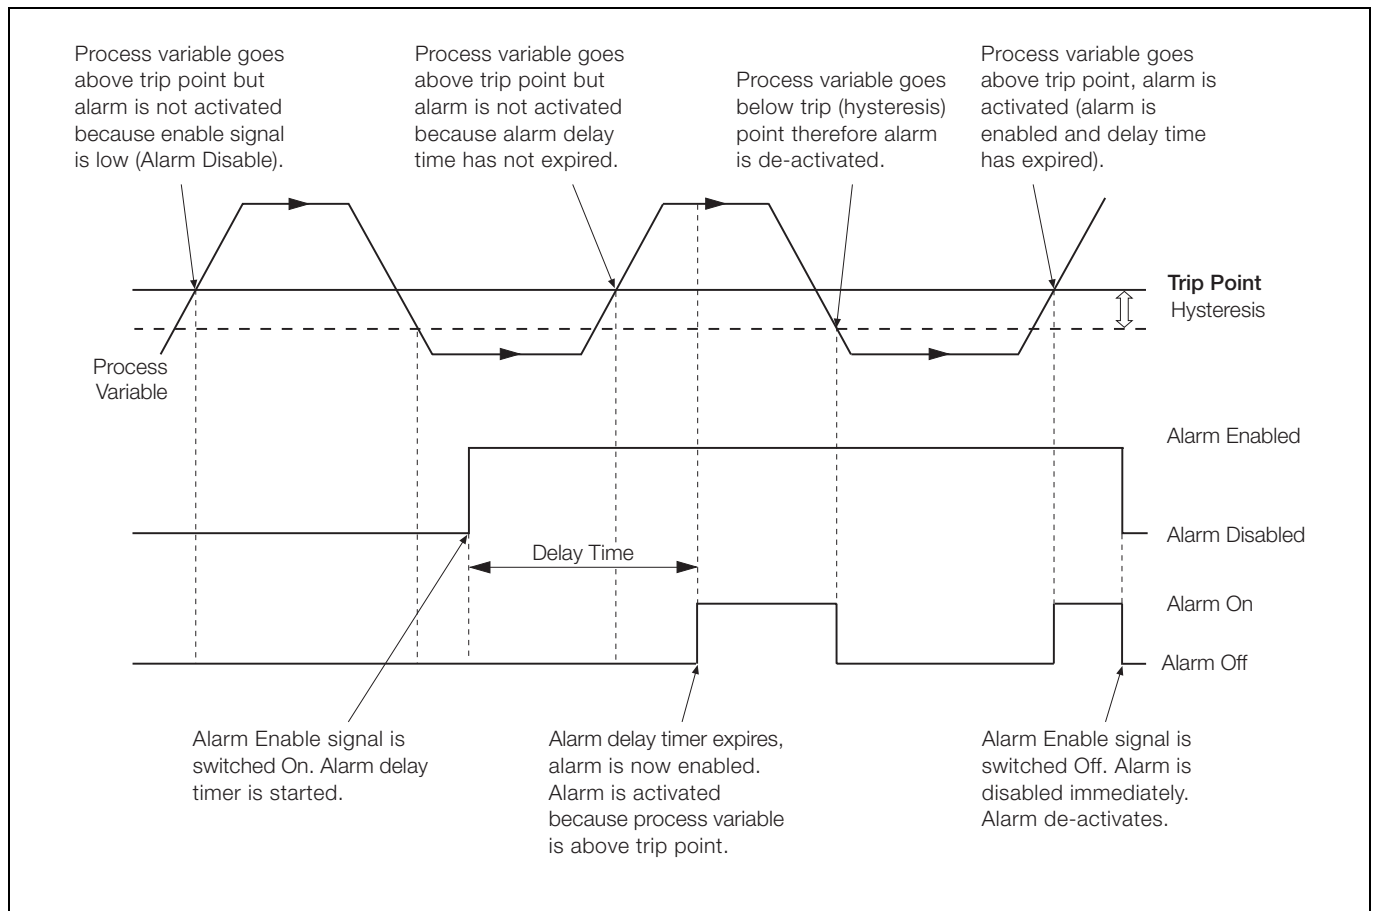

Fig. 4.15 Delayed High/Low Process Alarms
- Delayed high/low process – see Fig. 4.15, page 87
Note. Delayed process alarms only – see Fig. 4.15, page 87.
Note. For Delayed Process alarm operation, see Fig. 4.15, page 87.